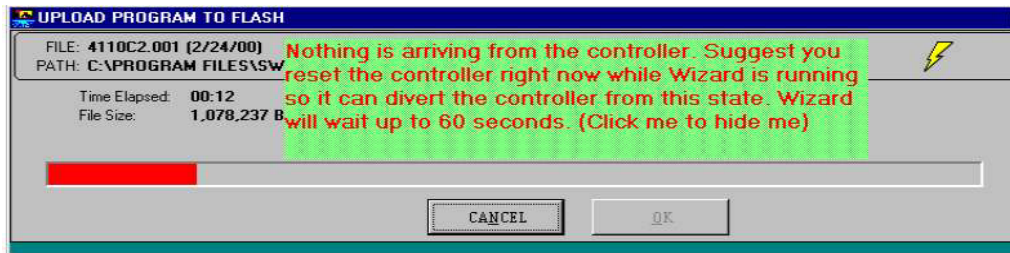

Figure 15: Flash Upload Requesting Controller Power Cycling
- Usually the Wizard can put the controller into the required state to perform the upload but there is one case in which a controller can be unresponsive to any command from the Wizard. If the Wizard encounters this lack of response it advises you to cycle power to the controller *while the Wizard continues to run* (shown in Figure 15). This allows the Wizard to catch the controller at the correct instant during its power-up sequence and direct it to enter the Flash upload mode. If the Wizard does not detect success during the following 60 seconds after this message it finally ends the Flash upload attempt with a failed result. If some attempts always fail and the connection is confirmed good, the cable undamaged and the P.C. port working then Tech Support might need to be contacted because there might be a hardware problem with the controller or possibly a BIOS problem (the low-level basic software that can only be changed by part replacement).